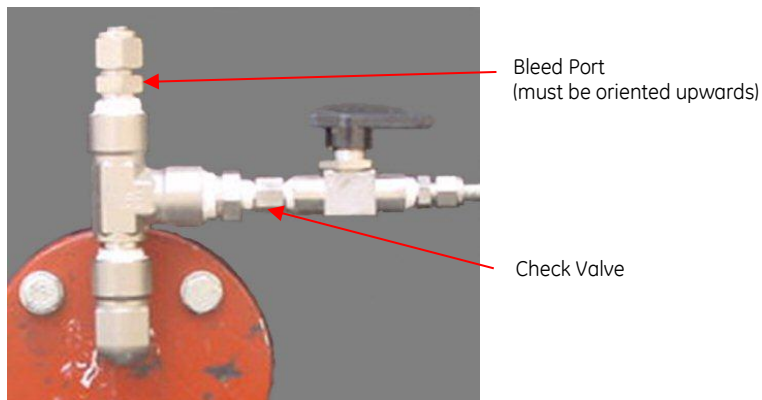

Figure 10: Bleed assembly on flange-type oil return valve
- If a flange-type valve is to be used to return the oil and the flange is drilled and tapped to a ¼ in. female NPT fitting, then the drilled hole should be offset to the top of the internal valve diameter to prevent an air pocket from being trapped behind the flange (see Figure 10).